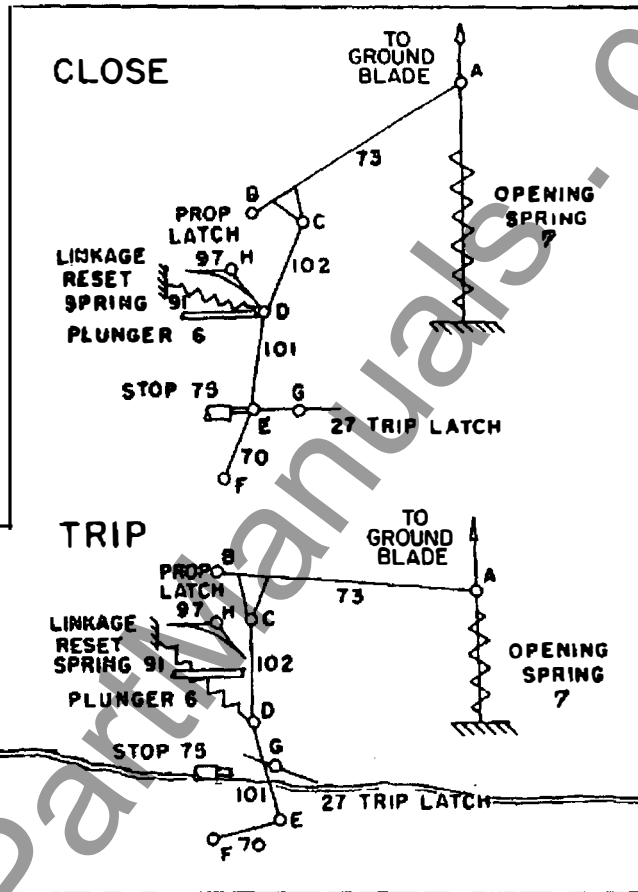

Fig. 6 - Four-bar linkage.
The 4-bar linkage (Fig. 6) consists of links (70, 101, 102 and 73). In normal closing operation, point E is held fixed between stop bolt (75) and trip latch